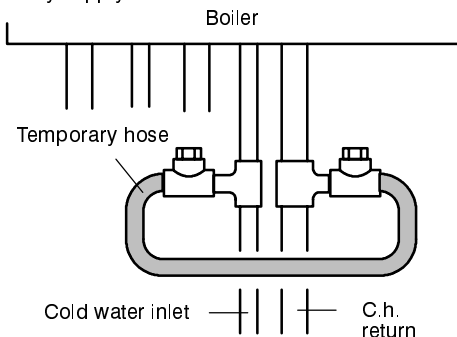

fig. 2.1
- 1 Reconnect the filling loop as demonstrated in fig. 2.1 and open the central heating flow (8) and return (4) stop valves.